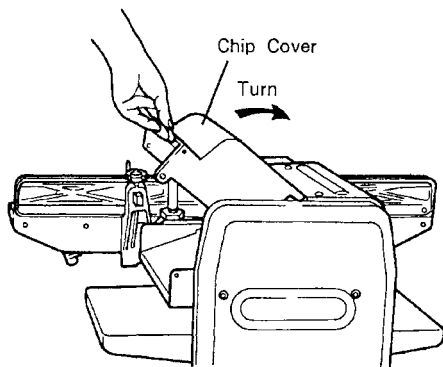

Fig. 14
- (1) Remove the bolt on the side of the Chip Cover and turn the Chip Cover in the direction indicated by the arrow mark (see Fig. 14).